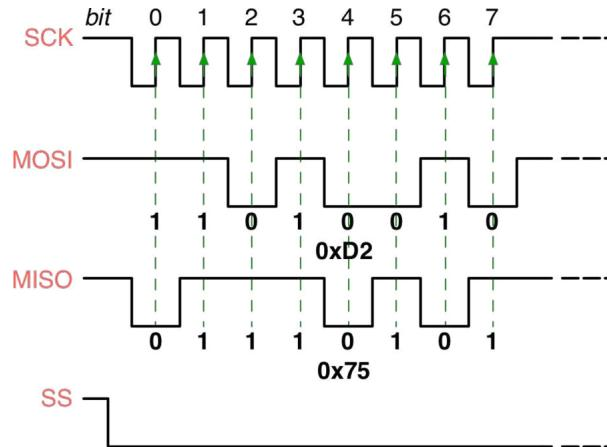
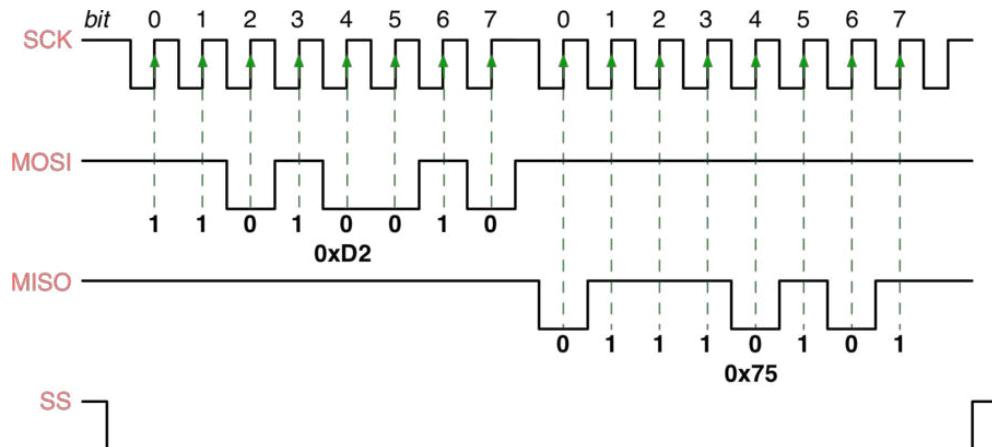

Figure 2: How data is exchanged over a SPI bus in a full-duplex transmission
Figure 3: How data is exchanged over a SPI bus in a half-duplex transmission
**Figure 2** shows the way data is transferred in a full-duplex transmission, while **Figure 3** shows the way it is typically exchanged in a half-duplex connection.